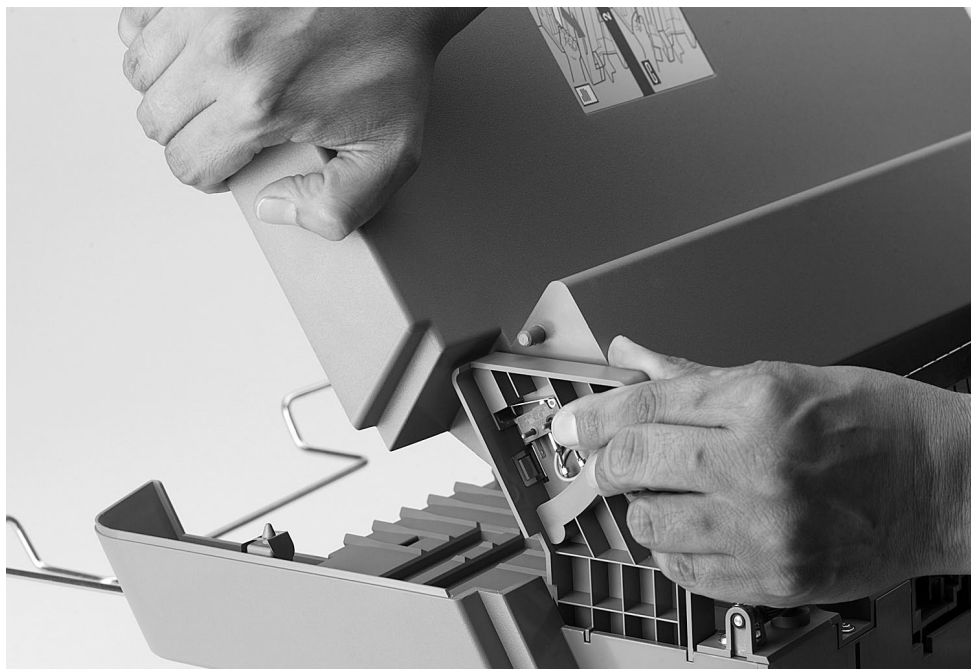

Figure 6-187 Top Cover Assembly
- 4 On each side of the assembly, pull the hinge to release the 2 posts from the retaining notches (see figure 6-187).
- 4 Remove the Top Cover Assembly (see figure 6-187 on page 374).
- 2 Remove the Top Cover Assembly (see figure 6-187 on page 374).